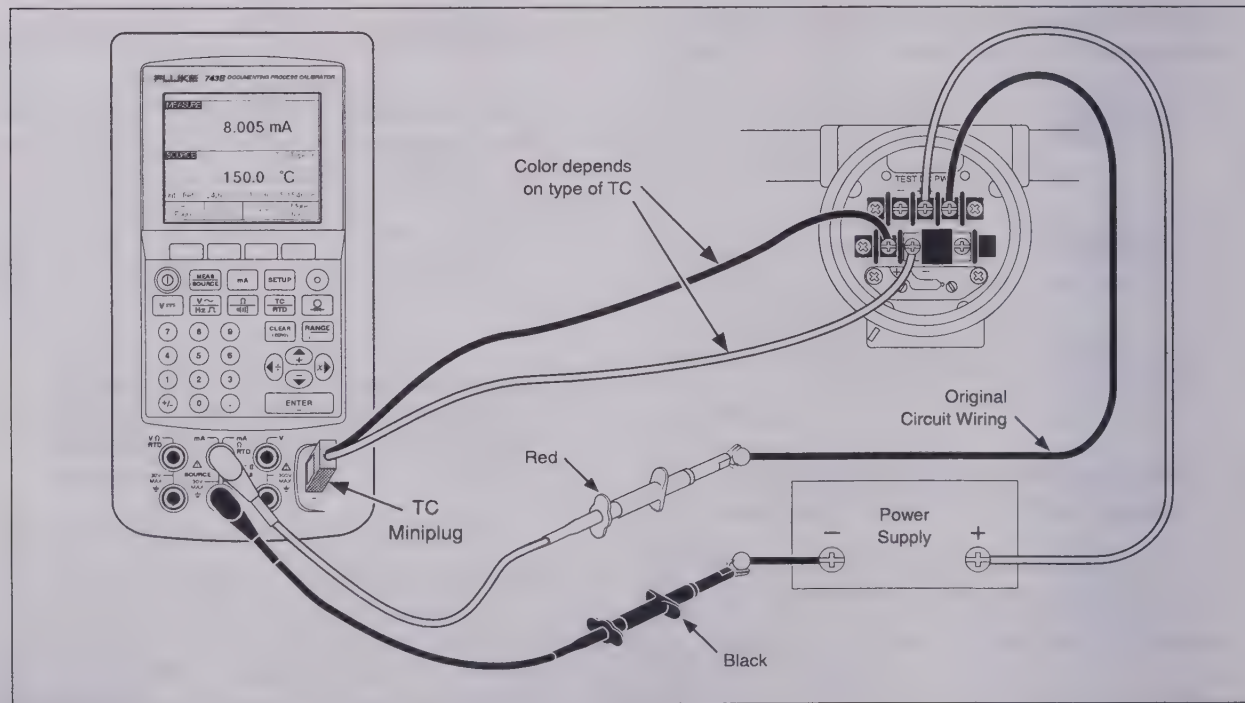

Figure 23. Calibrating a Thermocouple Temperature Transmitter
1. Connect the test leads to the instrument under test as shown in Figure 23. The connections simulate a thermocouple and measure the corresponding output current.